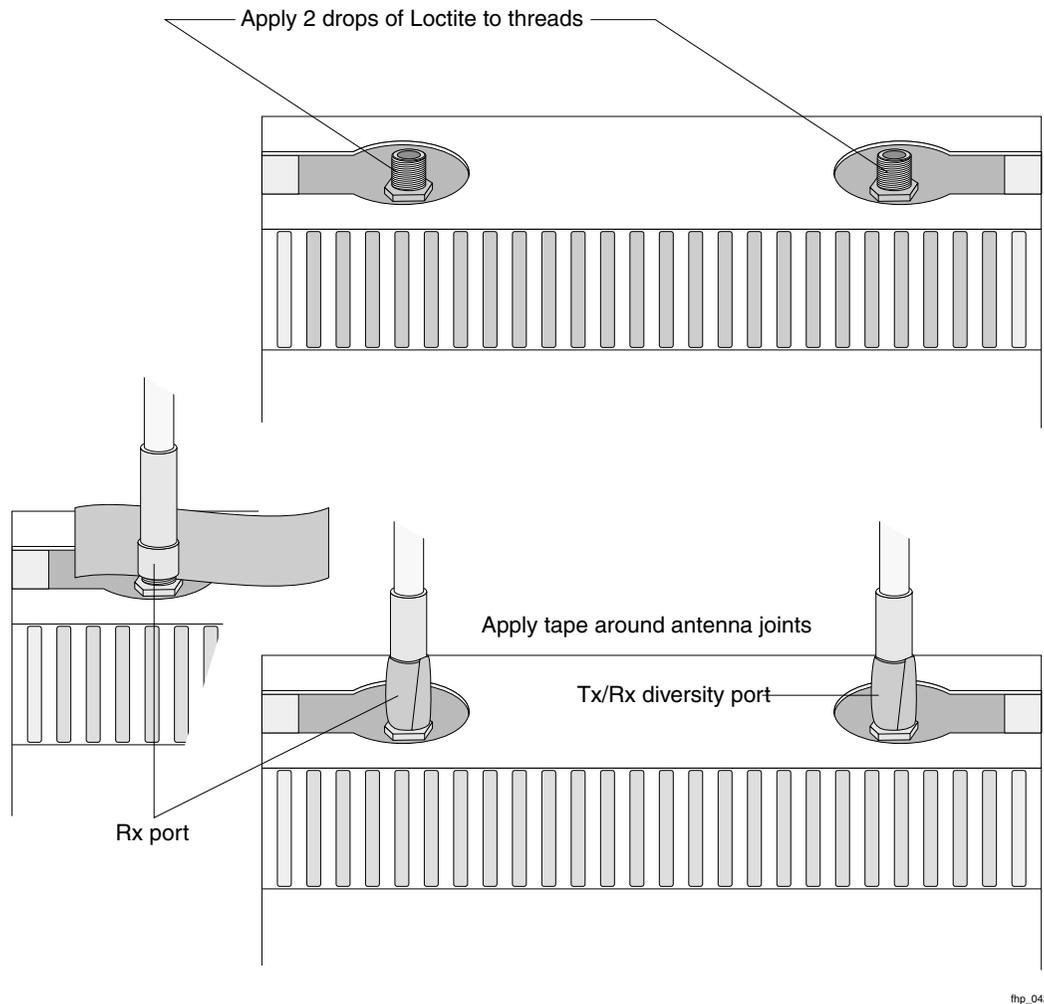

Figure 8 Waterproofing Antenna Connections
3. When you are satisfied with the trial placement of the antenna cables, remove the antenna connections from the Tropos 5110 Wi-Fi Cell and apply two drops of Loctite Threadlocker 242 to the antenna connector thread (Figure 8 on page 15).
Figure 8 shows how to waterproof the antenna connections after they are installed.